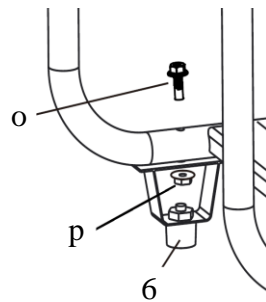

Fig. 3
- Mount the supporting legs to the base of cradle frame with supplied long screws (o) and nuts (p). See Fig. 3.